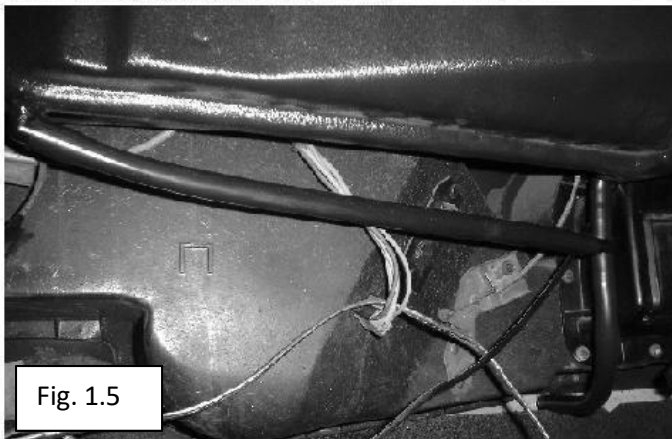

Fig. 1.5
- 11) We recommend keeping the drain out of sight, out of the feet area, and not draining onto the exhaust. Figure 1.5